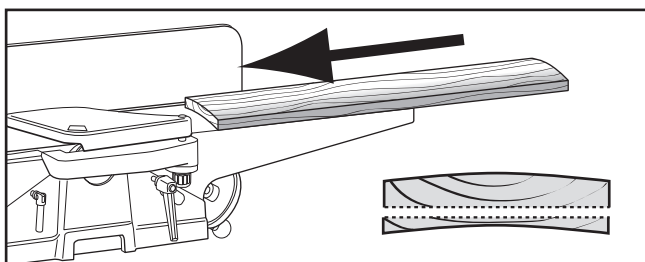

Figure 36. Surface planing on the jointer.
1. **Surface Plane on the Jointer:** The concave face of the workpiece is surface planed flat with the jointer (see Figure 36).